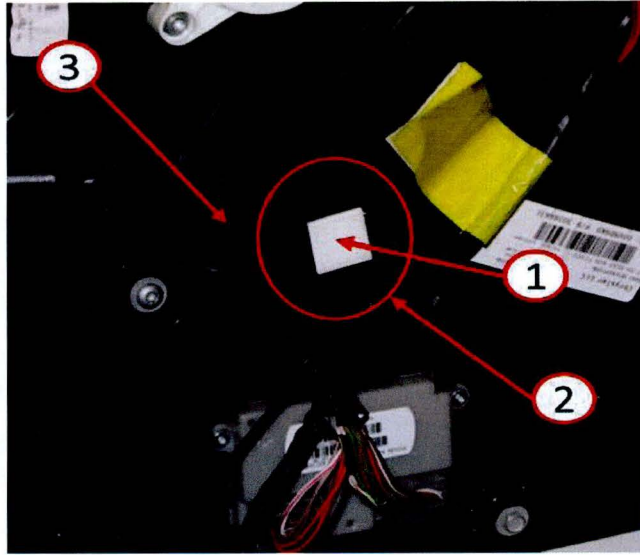

Fig. 5 Door Module Retainer Installation
5. Fully seat the white dual lock push clips (1) from repair kit into the 5/16" (8mm) hole in the door modules (Fig. 5).